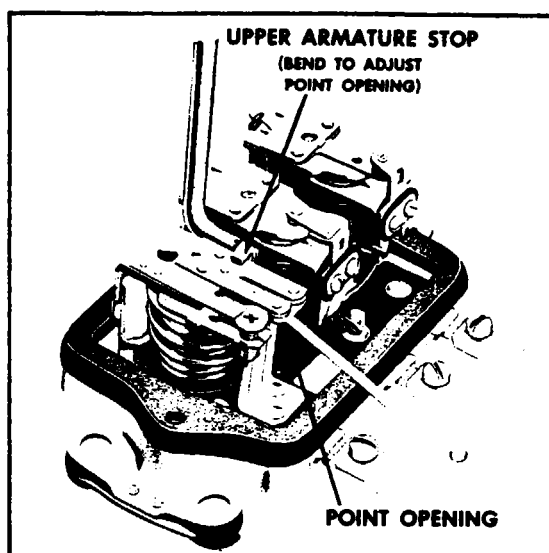

Figure 11-11. Cutout Relay Point Opening Check and Adjustment
b. Point Opening: Check point opening and adjust by bending the upper armature stop. (Refer to Figure 11-11.)